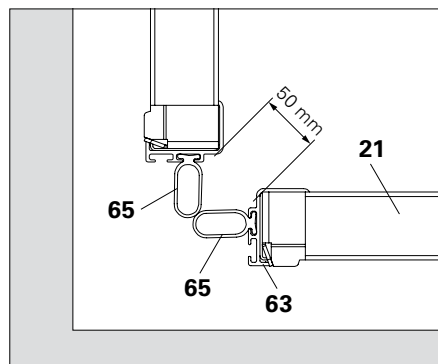

Fig. C2.12f
In the area of the Climbing Rail and enclosure post, install the Draw-In Profile LPS 20/55 (65) on both sides on the outside. (Fig. C2.12f)